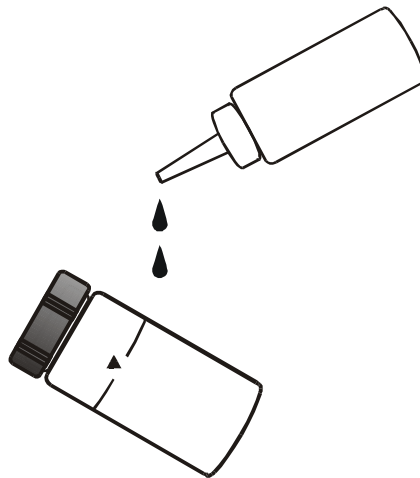

Figure 9: Apply a thin film of silicon oil
6. Apply a thin film of silicone oil (supplied) on the sample vial (see Figure 9).